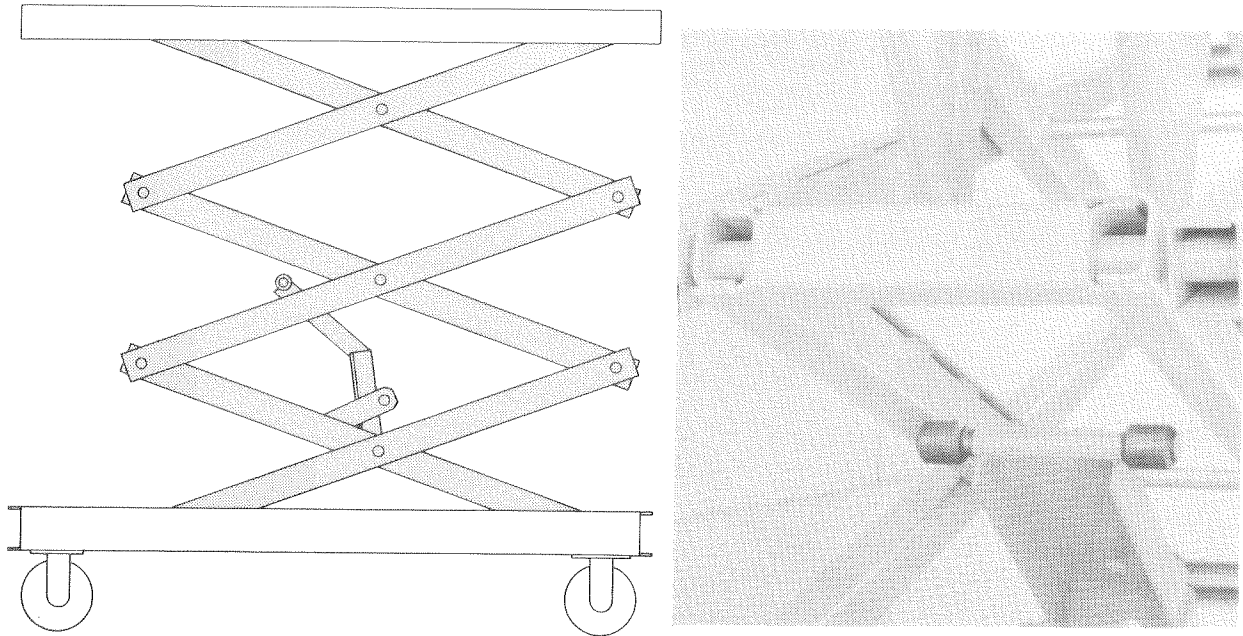

Figure 19. Lubricating Scissors Mechanism.
- a. All pivot areas of scissor members, including both sides of bushings in beams, Figure 19.